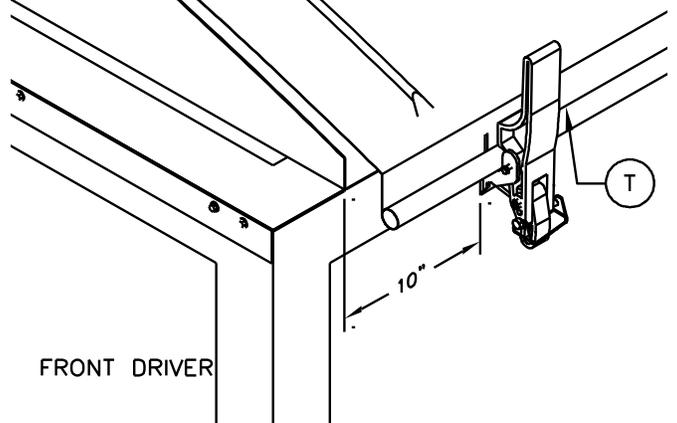
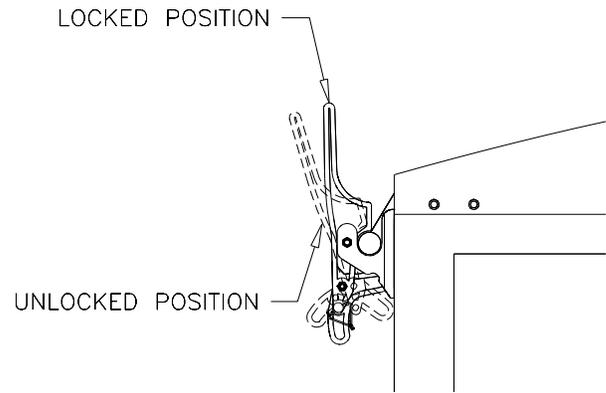

Figure 8 (Optional)
Figure 9 (Optional)
**Procedure:** Locate the front bracket (P) 10" in from the face of the front hood and 3/4" lower than the top edge of the cart. Using a 5/16" drill bit drill two holes through the predrilled holes in the bracket. Secure bracket to cart using two 3/8" self-threading bolts (Q). Remove the 1/4"x3" hex bolt (R) from the flip-release tarp stop (S). Insert the bolt through the bracket (P) and through the tarp stop (S). Secure the stops using the 1/4" lock nut. Torque the bolt appropriately so the flip-release tarp stop will remain in the unlocked position (See Figure 9). Remove the quick pin from the bottom hole of the flip-release tarp stop and adjust the tarp stop so it is in the unlocked position (See Figure 9). Follow the same procedure for the remaining flip-release tarp stops. Install the rear bracket 10" in from the face of the rear hood and 3/4" lower than the top edge of the cart. Evenly space the remaining flip-release tarp stops along the same side of the cart making sure to mount the brackets 3/4" lower than the top edge of the cart. Position the round pipe (T) in the brackets as shown in Figure 8&9. Adjust the tarp so that it sits two inches back from the wind deflector on the front hood. Once the tarp is in position, engage flip-release tarp stops into the locked position (See Figure 9). Reinsert the quick pins through the bottom holes of the flip-release tarp stops. Roll the tarp to the closed position.